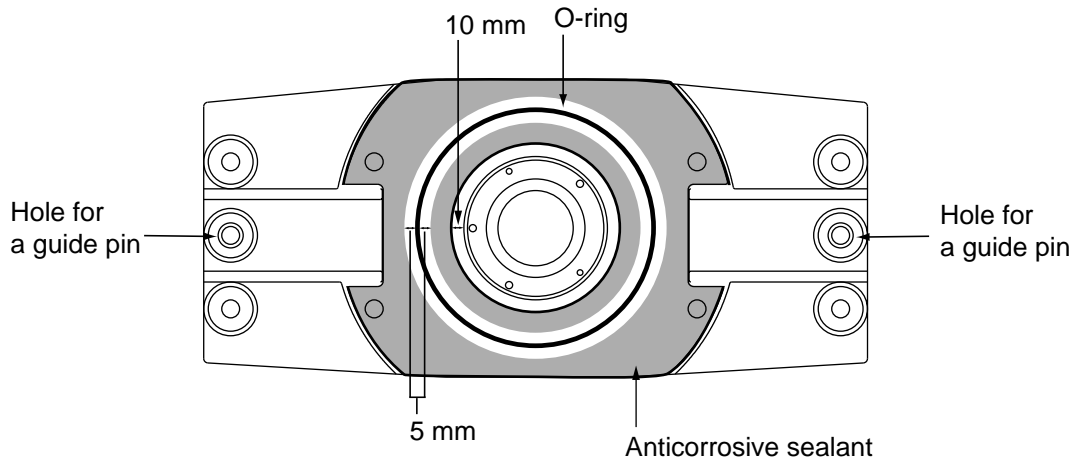

Figure 1-2 Coating the waveguide flange with anticorrosive sealant
3. Coat the waveguide flange with anticorrosive sealant as shown in Figure 1-2.